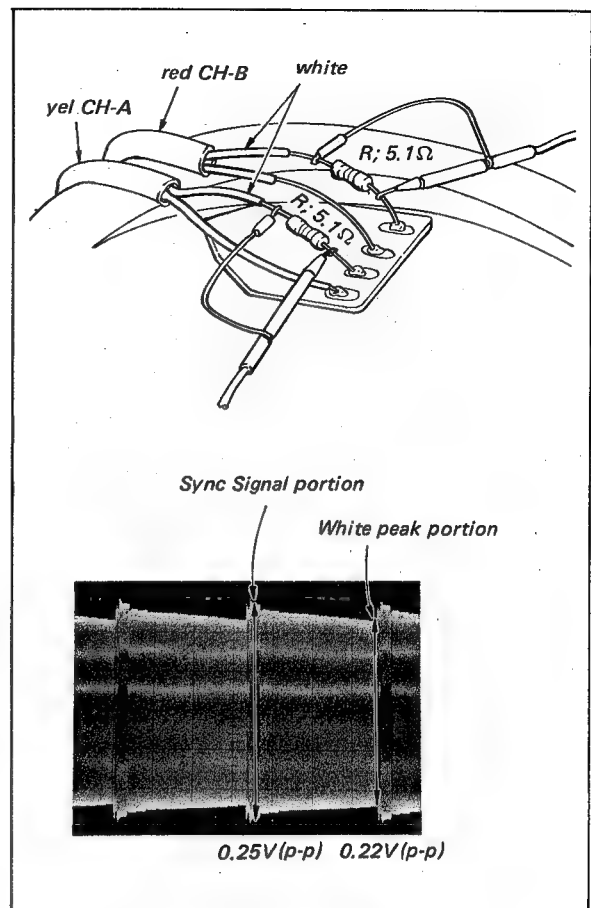

Fig. 6-5. Record current adjustment
- Temporarily connect two resistors of 5.1 ohms to the relaying board on the head drum as shown in the Fig. 6-5. Connect the scope across the resistor and externally trigger it from TP-202/V3 Board. Adjust R260 and R264; CH-A (R269 and R273; CH-B) on the V3 Board so that the both amplitude corresponding to the horizontal sync signal portion and the white peak portion satisfy the specifications shown in the Fig. 6-5.